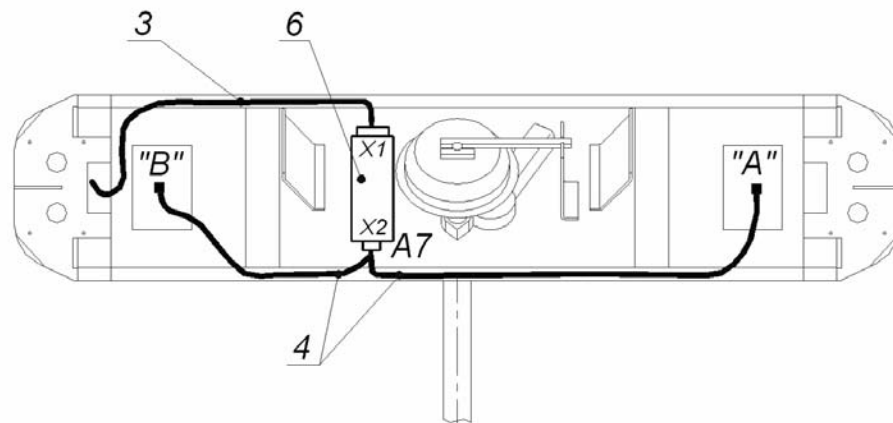

Fig. 11. Cables layout inside the turnstile housing
8.4.6 The cables layout inside the turnstile housing is shown in Fig. 11.